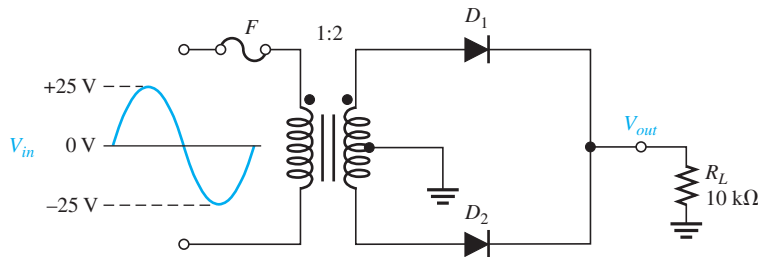

FIGURE 2-21
- (a) Show the voltage waveforms across the secondary winding and across R_L when a 25 V peak sine wave is applied to the primary winding in Figure 2-21.
What diode PIV rating is required to handle a peak input of 160 V in Figure 2-21?